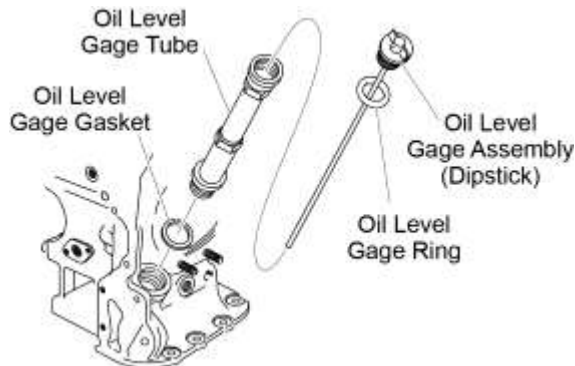

Figure 1
- (1) Pull out the oil level gage assembly (dipstick) from the oil level gage tube (Figure 1).
- (1) Pull out the oil level gage assembly (dipstick) (Figure 1) from the oil level gage tube.
- (2) Add either new clean mineral oil (if within the first 50 hours of operation of a new, rebuilt, or overhauled engine) or specified oil of the correct quantity and viscosity for the ambient temperature (identified in Appendix A in the *IO-390-D Series Engine Installation and Operation Manual* or the latest revision of Service Instruction No. SI-1014) to the oil sump through the oil level gage tube.
- (3) Measure the oil level per the “Oil Level Check” procedure in this chapter. Add more oil if necessary until the oil level in the engine is sufficient.
- (4) Install the oil level gage assembly (dipstick) into the oil level gage tube securely.
- (5) Record the amount of oil added to calculate oil consumption in the engine logbook.